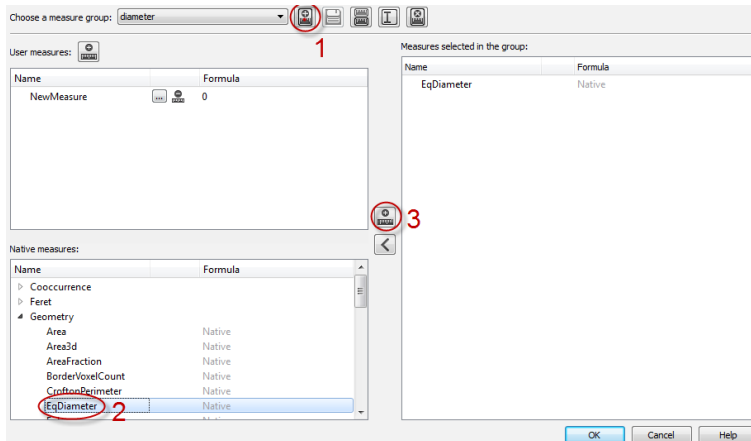

Figure 4.57: Selection of measure groups
- Press on the configuration button of the *Measures* port (the button with 3 dots). A panel opens for the selection of measure groups (see Figure 4.57).
- Create a new measure group by pressing the dedicated button next to the measure group selector (1).
- Select EqDiameter in the native measures list (2) and use the arrow button to add it to the group (3).